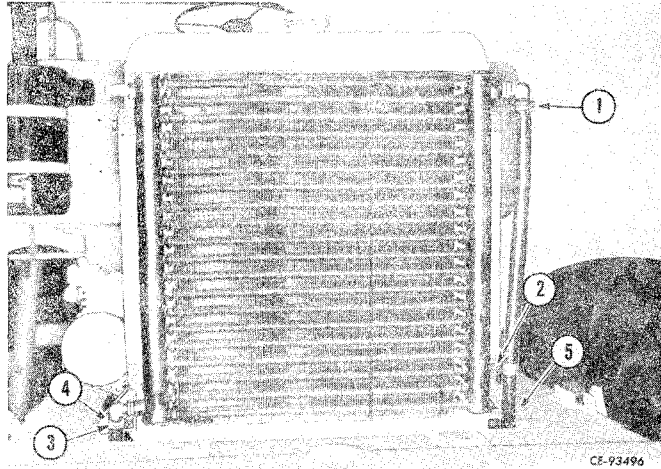

Figure 2-8
Disconnect oil cooler lines by loosening hose clamps (3, 1, Fig. 2-8). Remove hose clamp (2). Remove cap screws and nuts (4, 5) and remove radiator and oil cooler from tractor frame.
Install radiator and oil cooler in tractor frame. Install and tighten cap screws and nuts (4, 5, Fig. 2-8). Connect oil cooler lines (1, 3) by tightening hose clamps. Install hose clamp (2).